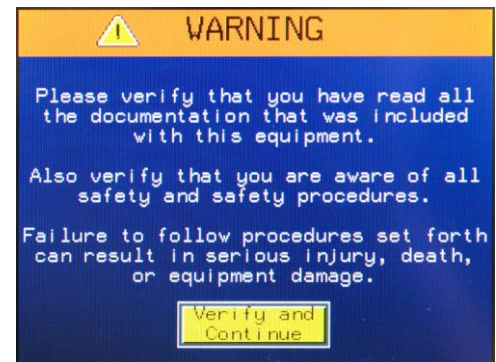

Figure 6
3. If this screen appears, after reading the WARNING, press the **Verify and Continue** button, Fig. 6.